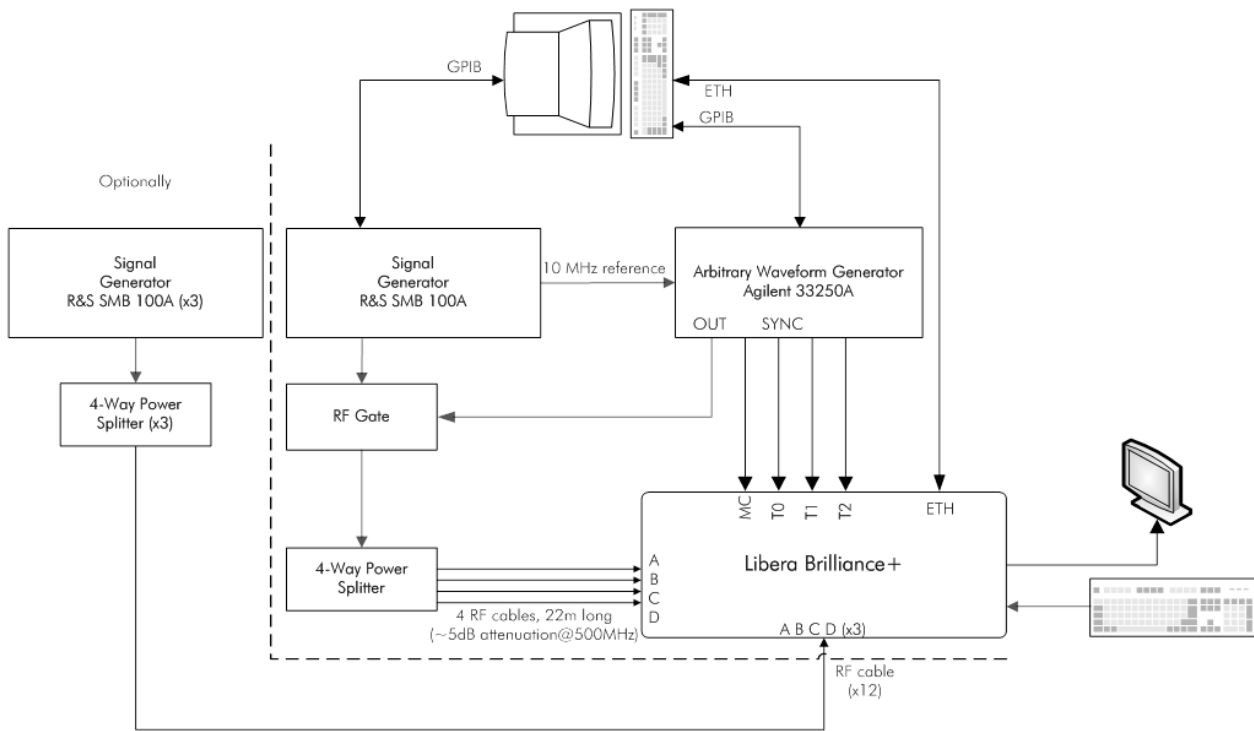

Figure 75: Test setup block diagram.
Test setup is shown in Figure 75.
- Repetition of test no.1: Measurement uncertainty/noise, using test setup described in Figure 75 (without the gate).